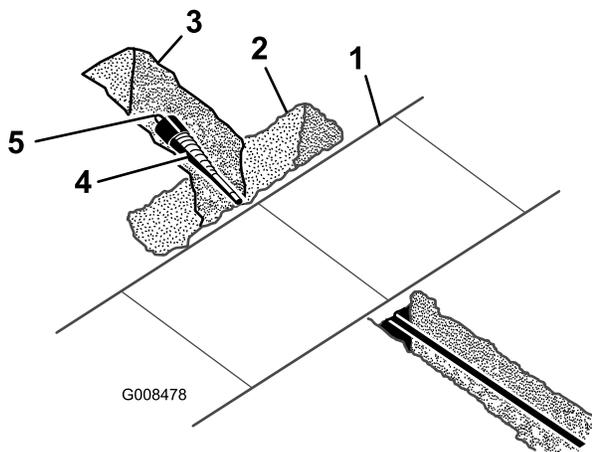

Figure 5
1. With a shovel, carefully dig around the boring bit clearing it of soil until it can be removed (Figure 5).
2. Remove the boring bit and attach the reamer (Figure 5).
3. Attach the cable or piping being installed to the swivel on the end of the reamer (Figure 5).